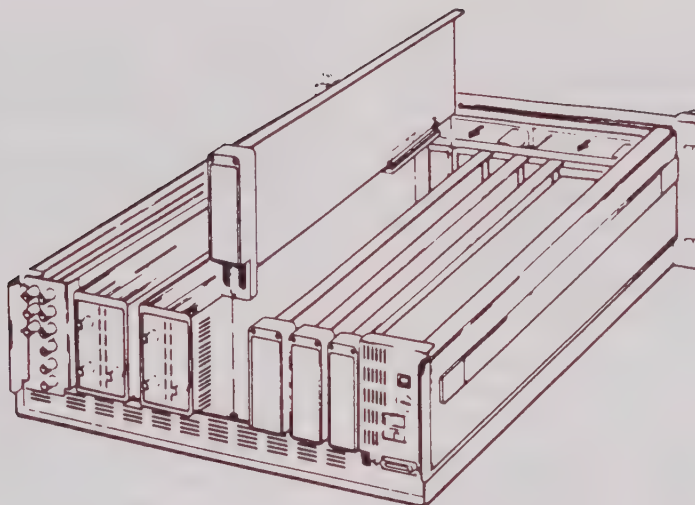

Figure 2-6. Blanking Module Placement
** Blank modules must be used in nonfunctional slots for bus continuity, radiation control and air path control, as seen in figure 2-6.*